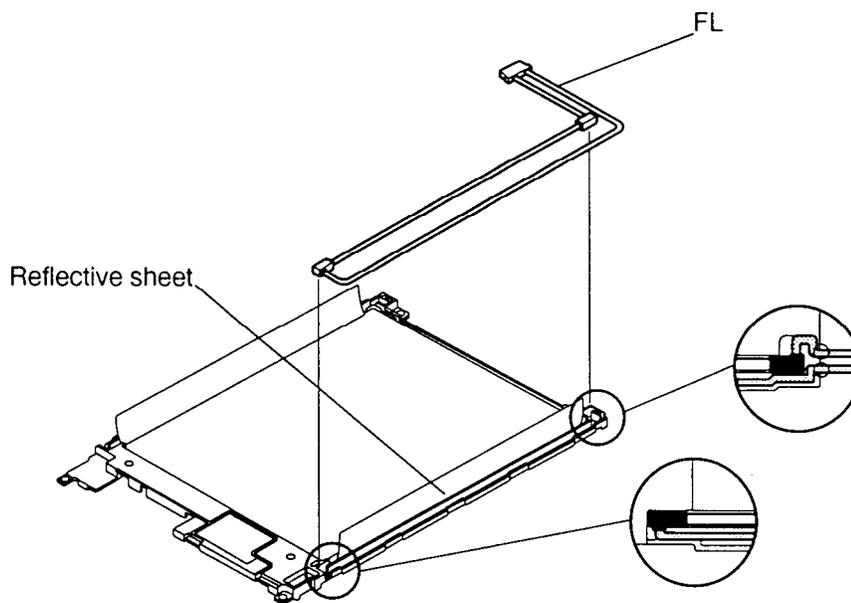

Figure 4-33 Removing the FL
6. Lift out the **FL** (figure 4-33).
1. Place the **FL** on the **FL unit** and cover the FL using the reflective sheet (figure 4-33).